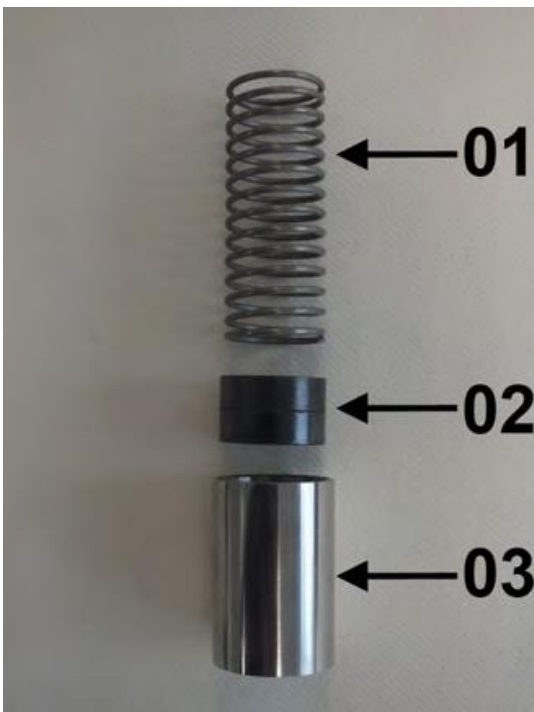

Fig. 40: Spring, magnets and float
7. ► The inner parts of the flow monitor consist of the (Fig. 40/01) spring, (Fig. 40/02) magnets and (Fig. 40/03) float.